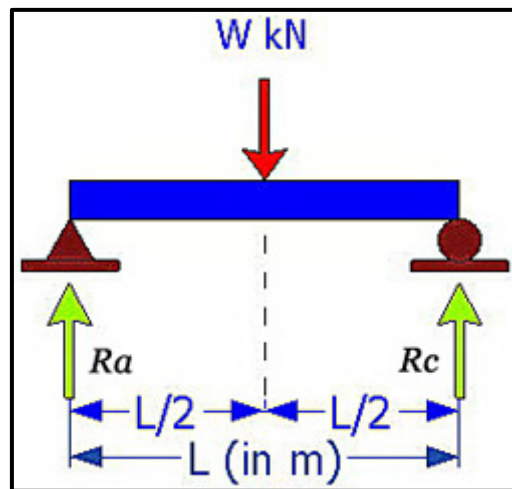

Figure B3(a) / Rajah B3(a)
- (a) Sketch the shear force diagram (SFD) and the bending moment diagram (BDM) of a simply supported beam as shown in Figure B3(a) and label the maximum bending moment.